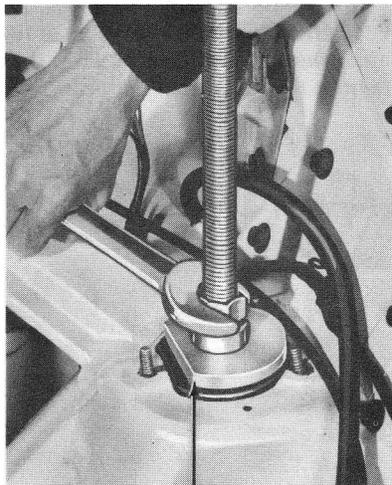

FIG. 4—Coil Spring Removal
7. Fit the tool pilot into the spring upper seat, then compress the spring by tightening the nut on the threaded shaft of the tool (Fig. 4). Tighten the
6. Loosen the spring removal tool nut until the spring is properly seated, and then remove the tool (Fig. 4).